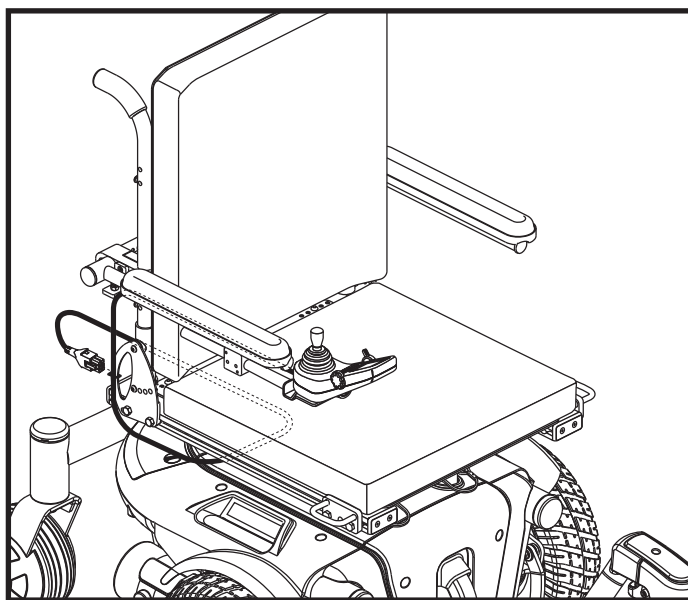

Figure 8. Controller Routed on a Synergy Seat
4. Install the controller and route the harness to the back of the power base. **See figures 8 and 9.**